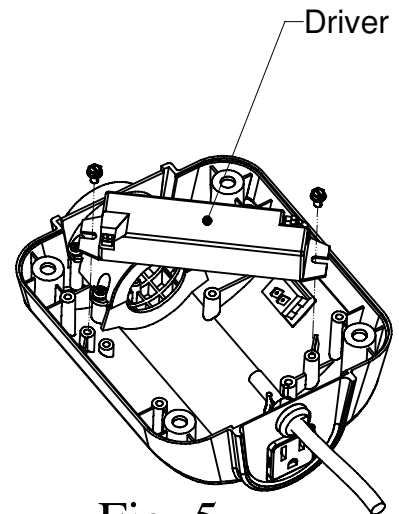

Fig. 5
- 4) Remove "Driver" by removing 2 screws. (See Fig. 5)